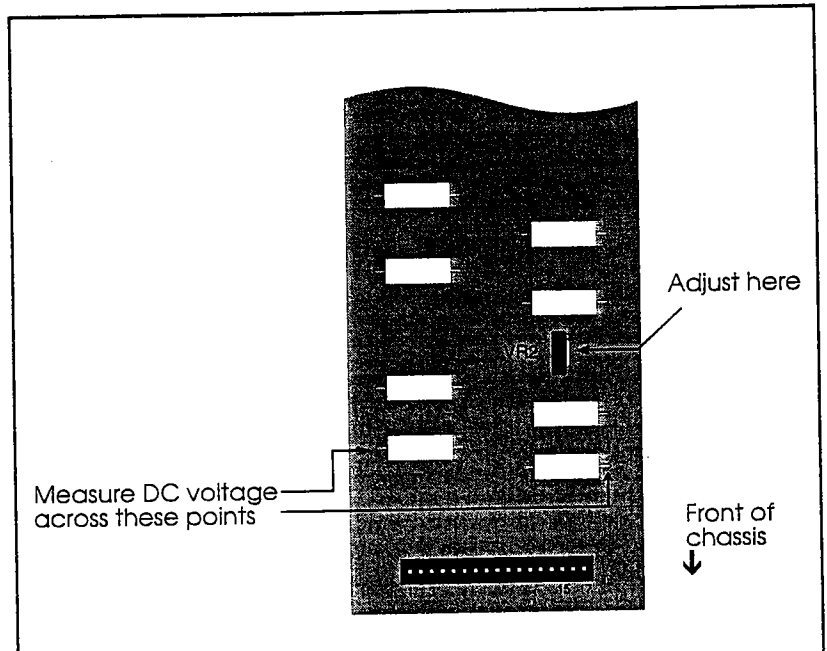

Figure 4-3. Bias adjust
10. Connect a DC voltmeter across the outside lead of the .33-ohm, 5 watt emitter resistors closest to the front end of the heatsink board (Figure 4-3).
REMEMBER! THE CLASS H OSCILLOSCOPE DRAWING IN FIGURE 4-3 SHOWS THE OUTPUT SINE WAVE AS WELL AS BOTH OF THE VOLTAGE RAILS. YOU ARE MONITORING THE OUTPUT BUT ONLY ONE OF THE RAILS AT AT TIME.
2. If the high rails appear distorted or are not modulating as shown in Fig 4-3, then the problem most likely exists somewhere in the circuitry of the respective (+ or -) defective high rail.